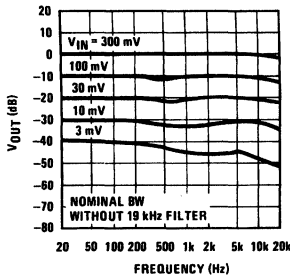

FIGURE 3. Output vs Frequency
*Figure 3* is an interesting curve and deserves some discussion. Although the output of the DNR system is a linear function of input signal, the  $-3$  dB bandwidth is not. This is due to the non-linear nature of the control path. The DNR system has a non-uniform frequency response, but looking at the  $-3$  dB bandwidth on a steady state basis with a single frequency input can be misleading. It must be remembered that a single input frequency can only give a single  $-3$  dB bandwidth and the roll-off from this point must be a smooth  $-6$  dB/oct.